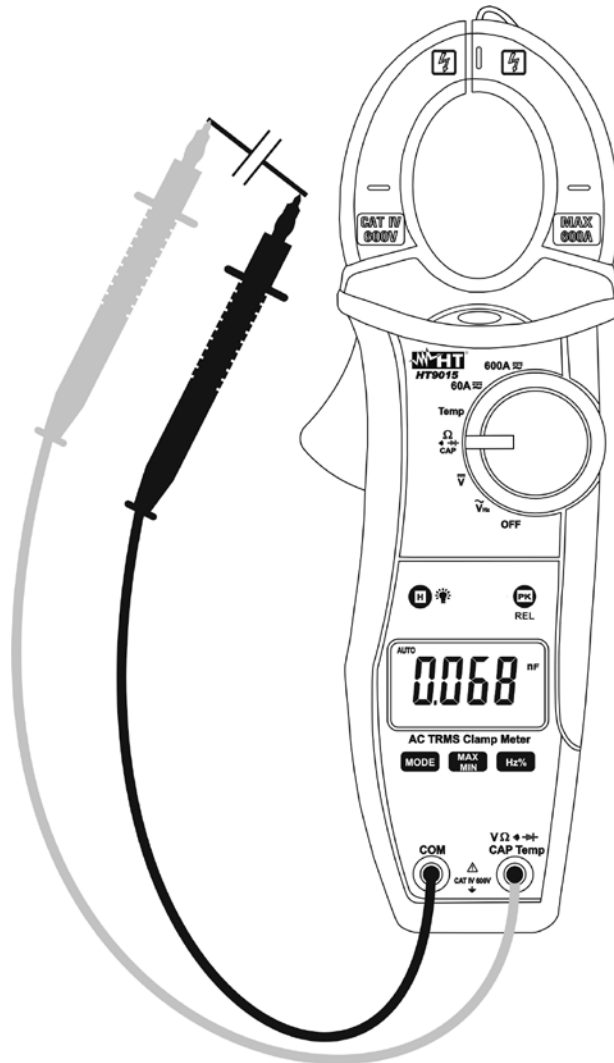

Fig. 7: Taking Capacitance measurement
3. Insert the red test lead plug into **VΩ·nF) → CAPHz%Temp** jack and the black test lead plug into **COM** jack (Fig. 7)